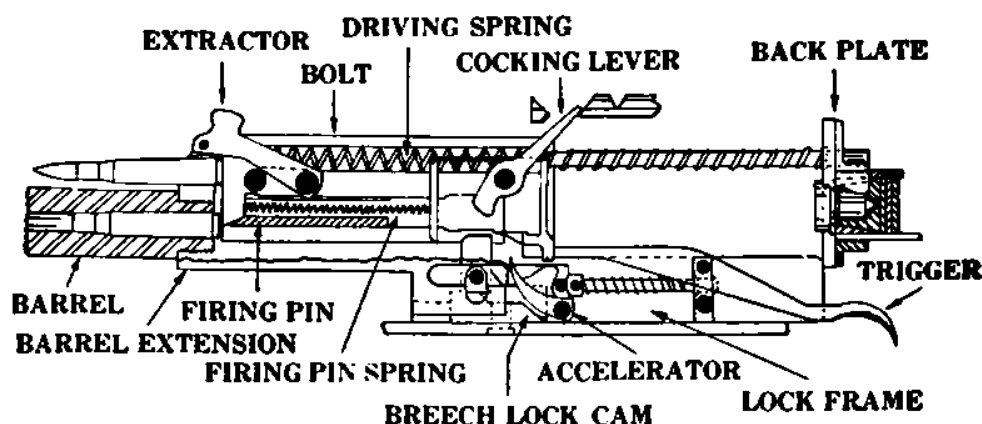

FIGURE 9.—Relation of parts in forward position.
■ 35. **BACKWARD MOVEMENT OF RECOILING PARTS** (figs. 9 and 10).—The explosion forces the recoiling parts (barrel, barrel extension, and bolt) backward about $\frac{5}{8}$ inch. During the
■ 36. BACKWARD ACTION OF ACCELERATOR (figs. 9 and 10).—As the accelerator turns backward its tips strike the bottom
■ 37. **BACKWARD MOVEMENT OF BOLT** (figs. 9 and 11).—As the bolt moves backward the driving spring is compressed. The bolt brings with it a cartridge from the belt, held by the extractor, and an empty case from the chamber, held in the T-slot. The extractor cam plunger rides along the top
■ 45. **TRIGGER ACTION IN AUTOMATIC FIRE** (figs. 9, 13, and 14).—If the trigger is held raised, as the sear moves forward with the bolt the trigger cams engage the sear cams and force the sear down, releasing the firing pin. The gun thus fires automatically, repeating the operations of functioning already described. The release of the firing pin actually takes place about $\frac{1}{16}$ inch before the recoiling parts reach the forward position but after the breech is locked.